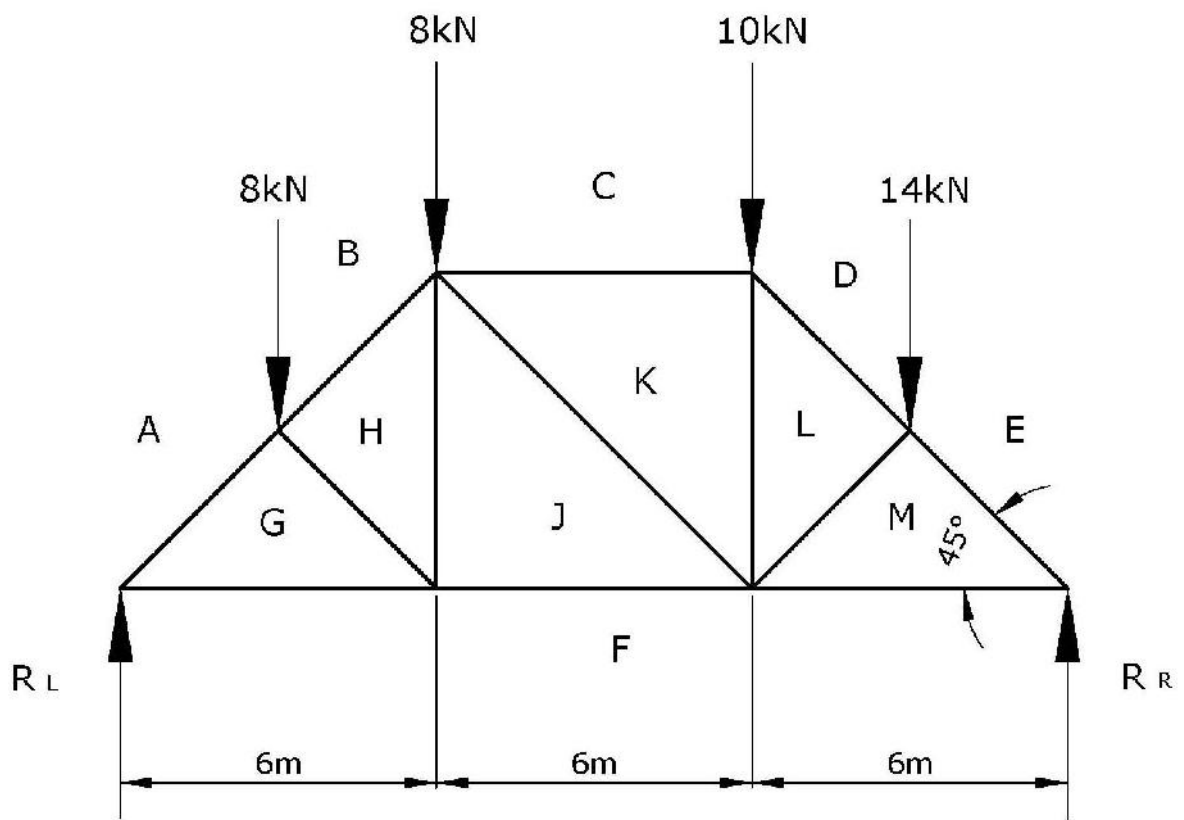

Figure 1
1. A loaded truss is shown in Figure 1.
- a) Using a scale of 10 mm representing 1 m, copy the space diagram and label the frame using Bow's notation. (3)
- b) Calculate the left and right support reactions for the unsymmetrical loaded truss. (5)
- c) Construct the stress diagram for the truss and determine the force in the vertical member HJ. (8)
- d) State whether the member HJ is in compression or in tension. (4)